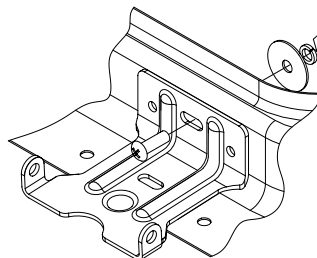
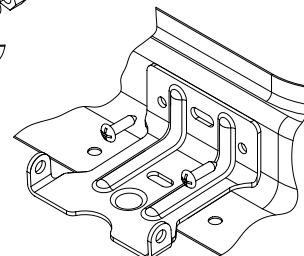

Figure 7
Figure 8
- iii. Fasten the brackets to the roof vent using the #8-32 screws with the fender washer, lock washers and nuts on the inside of the roof vent side wall. See Figure 7.
- i. Mark the two (2) outer holes of each bracket onto the side wall of your fan.
- iii. Fasten the brackets to the fan side wall using two (2) #6x1/2" long screws provided for each bracket. See Figure 8.